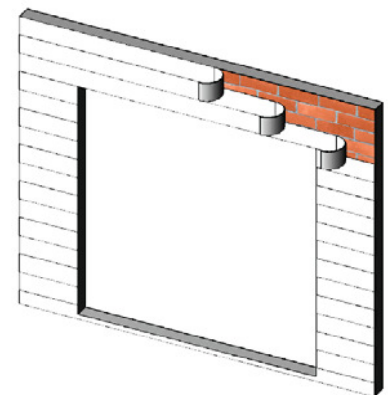

Figure 19:
4. Weather resistant building paper should be applied in a weatherboard fashion to complete the installation (Figure 19).